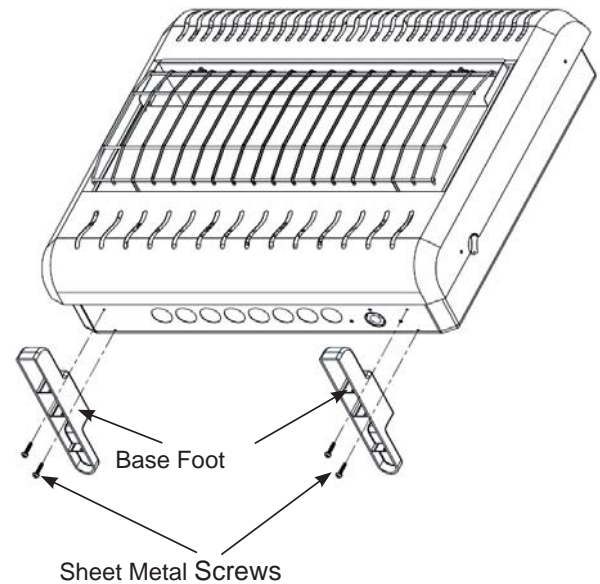

Figure 12 - Installing Base Feet
3. Align holes in base foot with mounting holes on bottom of cabinet (see Figure 12).